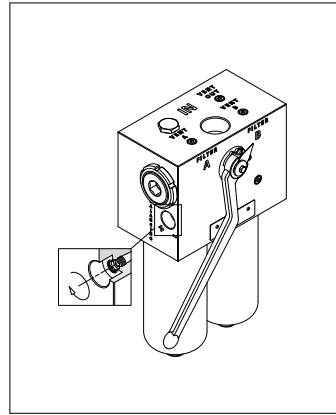

fig. 17
- (Fig. 17) Close the balancing valve by screwing it towards the “+“ sign